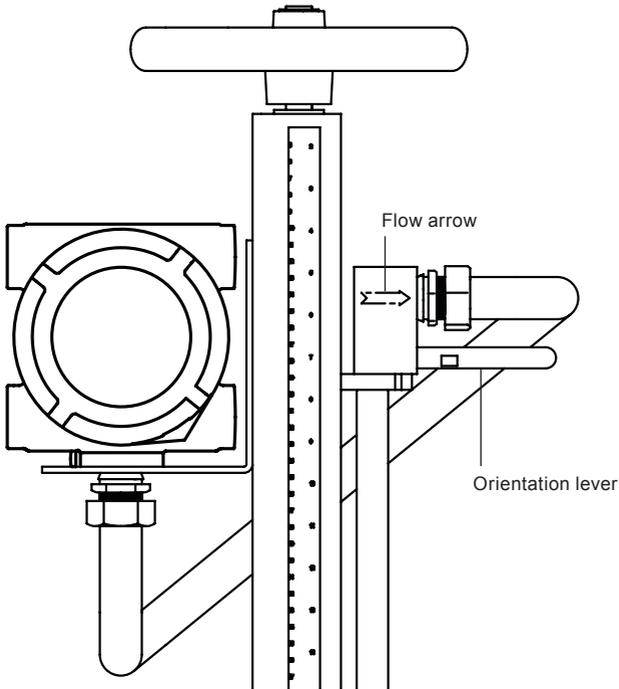

Fig. 10
- Step 1** - Carefully insert the rotor into the pipe until the calculated scale reading on the depth scale lines up with the arrow on the retractor bar assembly. If the rotor is a 38 mm (1.5") size (RIM10-600 with ASME [ANSI] Class 150 flanged connection), line up the bottom arrow on the retractor bar assembly marked 1.5 with the depth scale as shown in Figure 10.